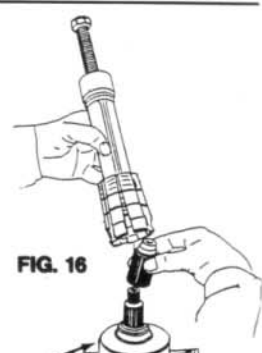

FIG. 16
2. Place the special TUBULAR PRESSURE PAD over the shaft. (Fig. 16)